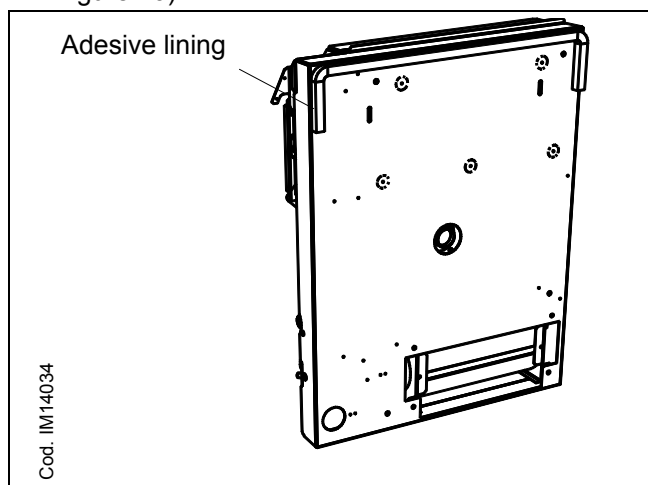

Figure 13 - POSITIONING OF ADHESIVE SPONGY LINING
9. Locate the adhesive spongy lining on the supporting frame placed behind the unit (see Figure 13). Try to do this operation in the proper way the first time and avoid repeated attempts which may result difficult.